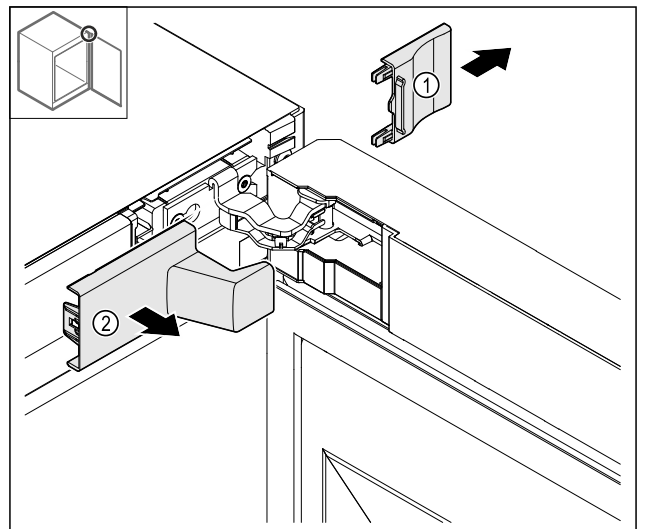

Fig. 14
- ▶ Remove the cover Fig. 14 (1) and then Fig. 14 (2).